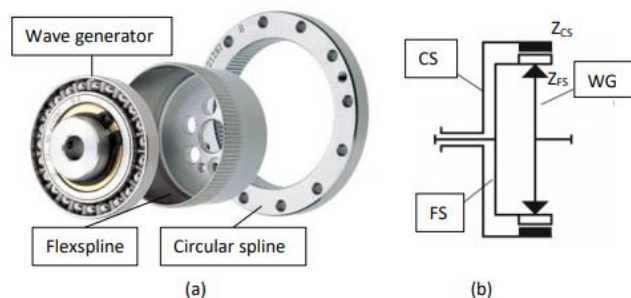

Figure 1. Cup style strain wave gear
There are two types of strain wave gear commercially available [2]. One has three components as shown in Figure 1 (a). The wave generator (WG) is a ball bearing with an elliptical cam insert. Its circumference is an ellipse, which is an offset curve from the cam. The flex spline (FS) is a cup shape thin shell. The flex spline is deformable along the radial direction, but has high torsional stiffness. The flexspline has spur gear teeth at the open end and rigid flange at the close end. The circular spline (CS) is a rigid ring gear.
The flexspline will fit tightly round the wave generator, the open end of flexspline will deform with the wave generator when wave generator rotating. The teeth mesh at the major axis of the ellipse between flexspline and circular spline. The three components system has two degree of freedom as a planetary gear train. The kinematic diagram is shown in Figure 1 (b). The rotational speed between the components is in Equation (1).